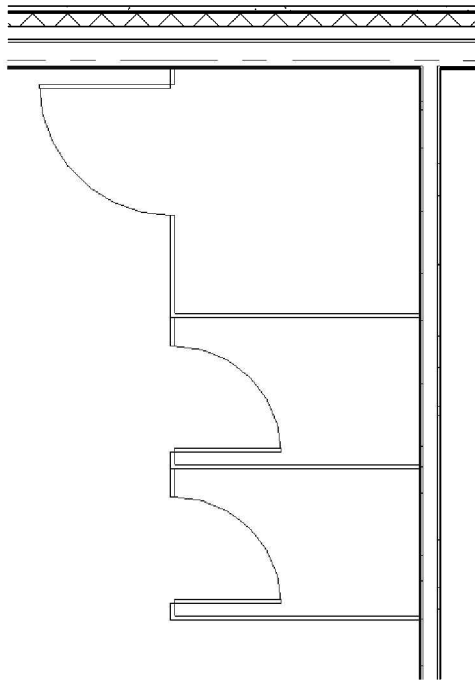

FIGURE 11-1.3 Std. Toilet stalls added
10. Place two toilet stalls (**Toilet Stall-Braced-3D: 36" x 60" Clear**) as shown in Figure 11-1.3.